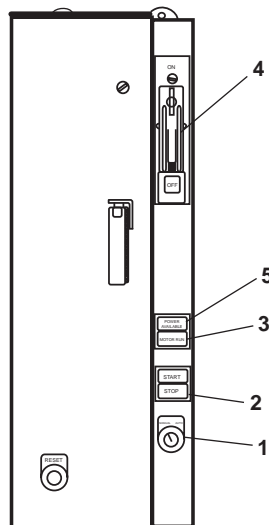

Figure 1. Fire Pump Motor Controllers
- a. Set the LOCAL-REMOTE switch (figure 1, item 1) for each controller to the LOCAL position.
- b. Press the STOP pushbutton (figure 1, item 2).
- c. Verify that the MOTOR RUN indicator (figure 1, item 3) goes out.
- d. Set the ON-OFF switch (figure 1, item 4) for each controller to OFF.
- e. Verify that the POWER AVAILABLE indicator (figure 1, item 5) for each controller goes out.